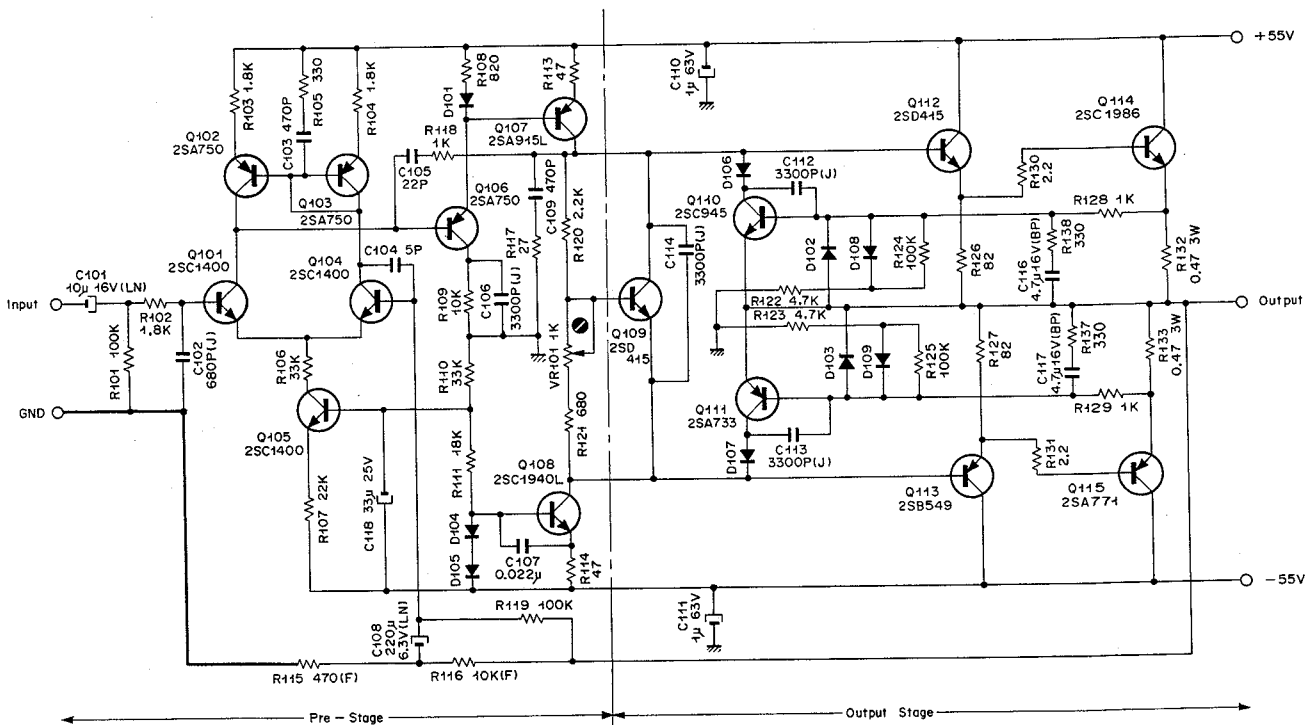
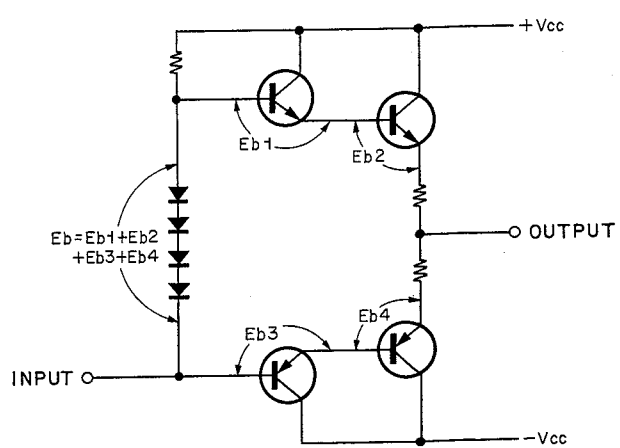

Fig. 2.4.7 Power Amplifier Circuit
Fig. 2.4.8 Conventional Circuit
Refer to Fig. 2.4.7.
Especially for a class B push-pull amplifier, distortion cannot be reduced unless the positive and negative signal amplifiers are well balanced. The amplifier in the N-530, however, is best balanced thanks to the vertically and horizontally symmetric configuration as shown in Fig. 2.4.7. This circuit allows distortion of only 0.1% at 1 kHz 55 watts output even without NFB. This degree of distortion is low enough to make the amplifier used as a high-fidelity unit even if it is given no NFB.
Fig. 2.4.8. shows that a change in current flowing across the diode varies the terminal voltage and that  $E_B$  changes with signal current. These changes result in the generation of distortion. It is a matter of course that signal current flowing across the diode will produce distortion. See Fig. 2.4.7. Transistor Q109 that generates bias voltage forms an emitter-follower circuit of class A operation. Thus this circuit does not induce distorted signals.
For an ordinary class B amplifier, crossover distortion is reduced by increasing idling current thus overlapping the operating ranges of the positive and negative transistors. The overlap portion acts as a class A amplifier. Generally, the degree of amplification decreases where a change takes place from class A to B and no linear curve is obtained as shown a thick continuous line in Fig. 2.4.9. (A). However, if the circuit shown in Fig. 2.4.7. is current-driven, a linear curve can be obtained at the point of change from class A to B as shown in Fig. 2.4.9. (B).